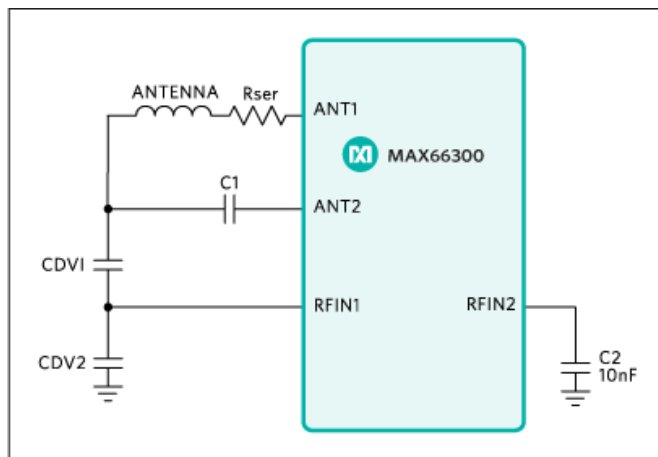

Figure 2. Direct antenna connection of the analog front-end.
In the configuration of **Figure 2**, the antenna is directly connected to the reader outputs through a resonant capacitor.
5. Lastly, calculate the capacitor values for Figure 2 using C_{res} formula given here: